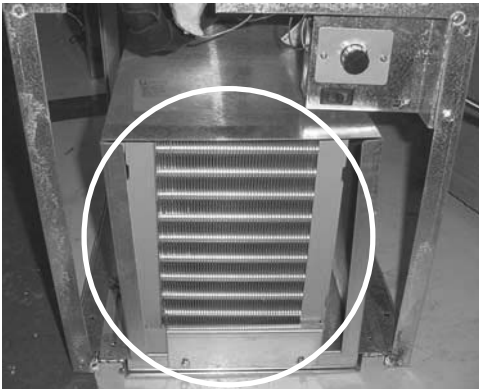

Figure 6
4. Clean the condenser coil (Figure 6) with an approved coil cleaner, and/or vacuum cleaner and brush.